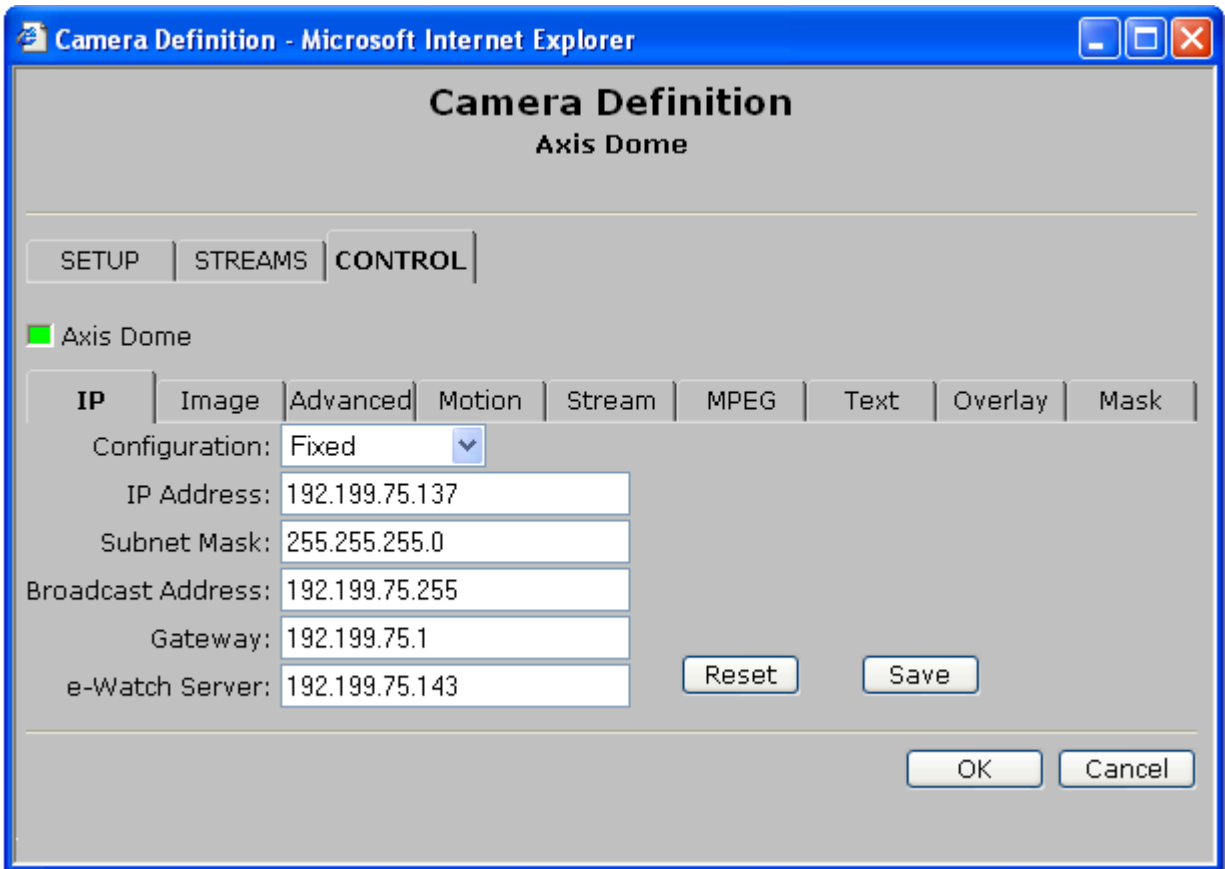

Figure 4-9. Manually Updating The Camera's IP Address
If you change the IP address of an Axis camera that does not support Event Configuration, follow these steps to manually update the camera's IP address in the e-Watch system . See Figure 4-9.
- Figure 4-9. Manually Updating The Camera's IP Address 20